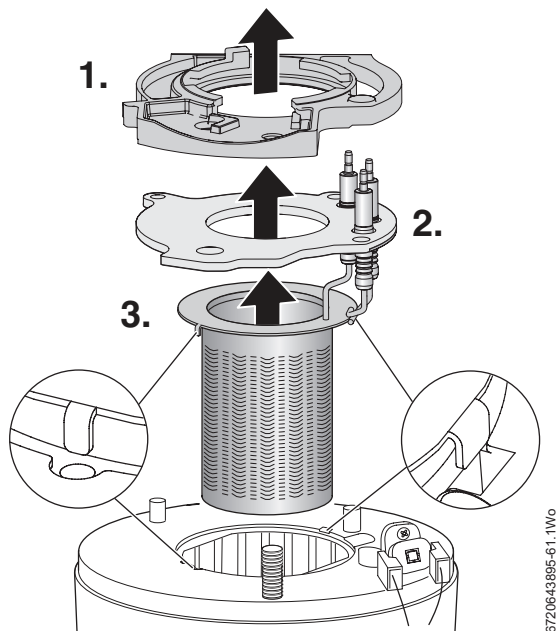

Fig. 87 Burner removal
Refer to figure 87
- ▶ Re-assemble ensuring that the lower baffle (2) and the top baffle (1) are refitted correctly.
- ▶ Refer to figure 87 when re-fitting the burner to ensure that it fits centrally within the heat exchanger and location tabs are situated in location holes.